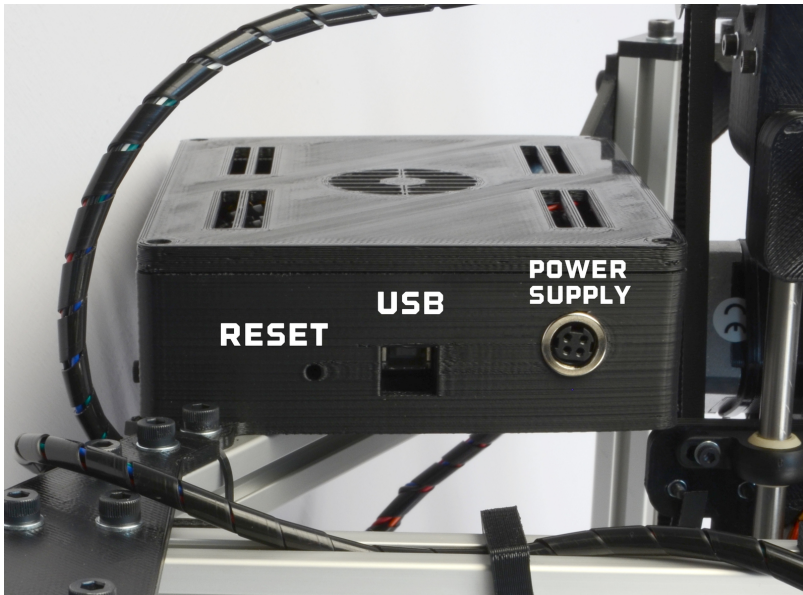

Figure 2.4: Power supply and USB receptacles
5. Locate the power supply and USB receptacles along the bottom of the RAMBo electronics enclosure (Fig. 2.4, page 18).